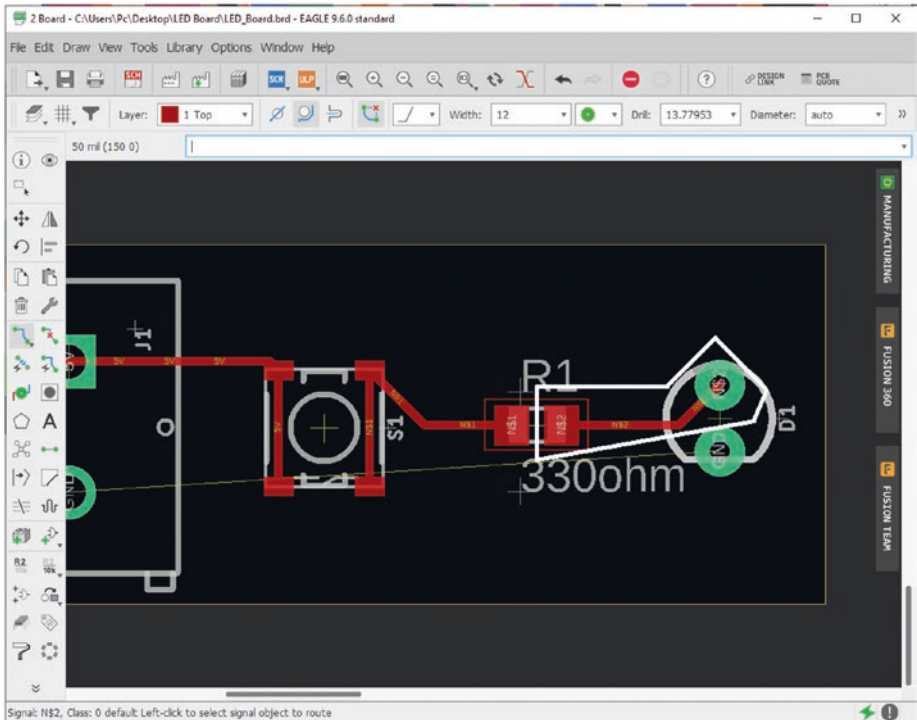

Figure 5-75. Connect resistor to LED
24. Next, left-click the right contact of the resistor and connect the other end to the top contact of the LED (D1). See Figure 5-75.